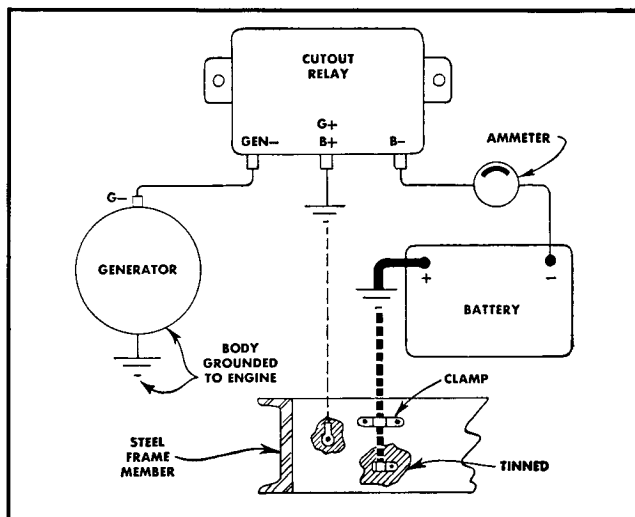

Fig. 11-4. Basic generator wiring diagram
3. The basic wiring diagram for a one-terminal, third-brush current controlled generator used with a cut-out relay is shown in Fig. 11-4. Equipment which requires low generator output, such as shovels and power units, will sometimes have this type of generator and cut-out relay.
4. This type of equipment will give satisfactory service provided the G+ B+ terminal of the relay is properly grounded to the same frame member used to ground the battery, as shown in Fig. 11-4, and provided the generator is used only for battery charging.